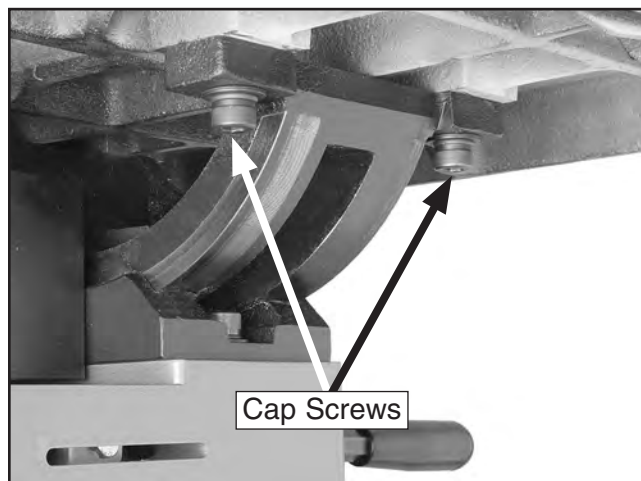

Figure 31. Cap screws securing table to trunnion.
3. Loosen four trunnion cap screws that secure table to trunnions (see **Figure 31**).